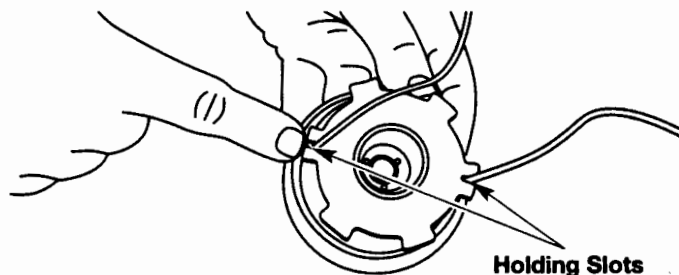

Fig. 34
- Insert the ends of the line into the two holding slots (Fig. 34).
6. Replace the air filter inside the air filter/muffler cover (Fig. 34).